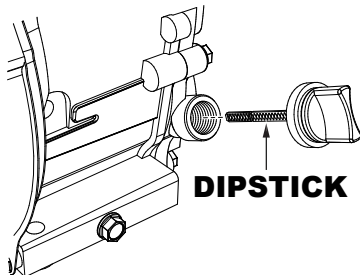

Figure 5. Engine Oil Dipstick (Removal)
2. Remove the filler dipstick from the engine oil filler hole (Figure 5) and wipe it clean.